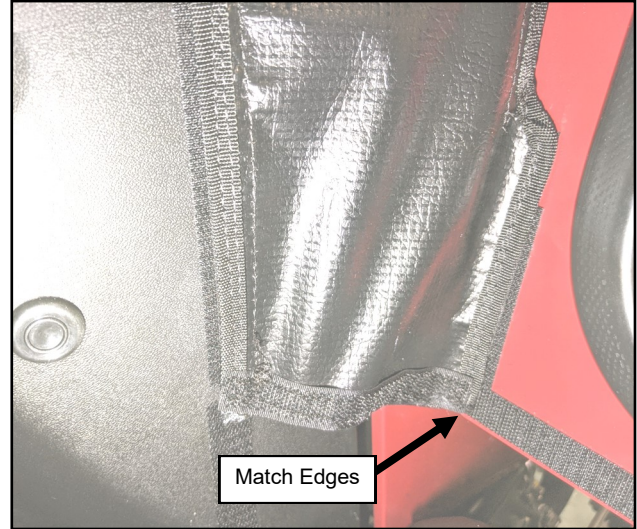

Fig. 14.4 (Secure Right Side Of Filler)
- 14.4** With the left side located, the right side should end in-line with the cutout in the cowl. See Figure 14.4. Start securing the filler in place with Velcro while ensuring the filler stays in place. Force the filler to follow in and out of the channel on both sides of the console noted in Figure 14.2 on the previous page.